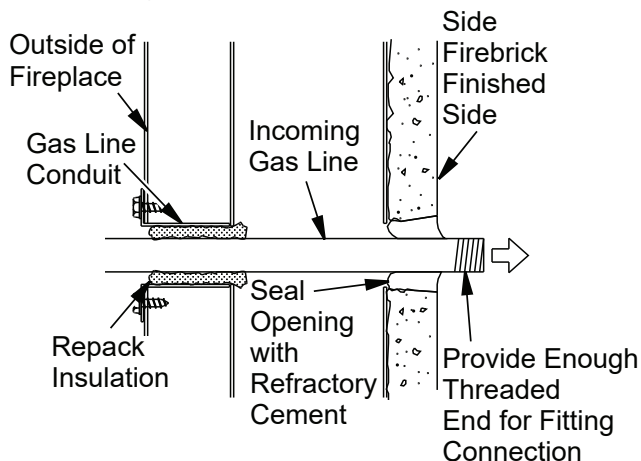

Figure 19 - Gas Line Installation
3. Install a gas line into fireplace through the rear at gas line conduit sleeve (if using a raised platform, add height). Provide sufficient gas line into fireplace chamber for fitting connection (see Figure 19).